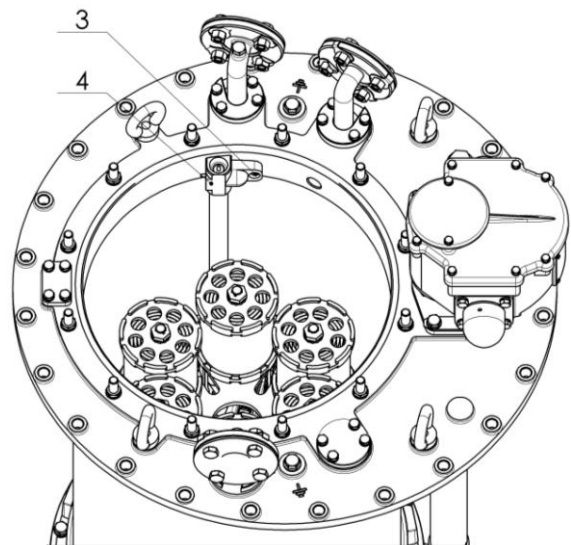

Fig. 2
- d) It is necessary to take out the siphon (Pos. 4); the bolt (Pos. 3, Fig.2) should be unscrewed beforehand.